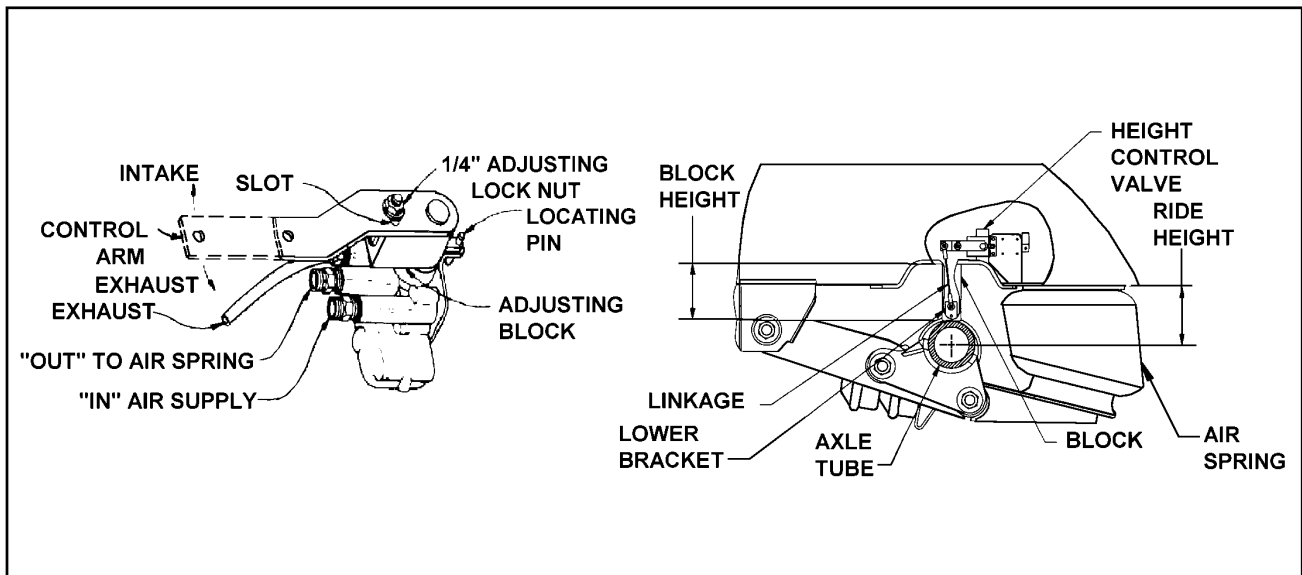

Figure 4-3 Air Ride Height Adjustment
4-6.3 Air Ride Height Adjustment. (See Figure 4-3 for parts identification).
- b. Disconnect linkage at the control arm and raise control arm to the "up" position, raising the trailer until a block can be placed between axle tube and undercarriage frame (See Figure 4-3).
- f. Loosen the 1/4" adjusting lock nut located on the adjusting block, allowing the control arm to move approximately 1 inch. Move the adjusting block until holes align, then insert locating pin. (See Figure 4-3).